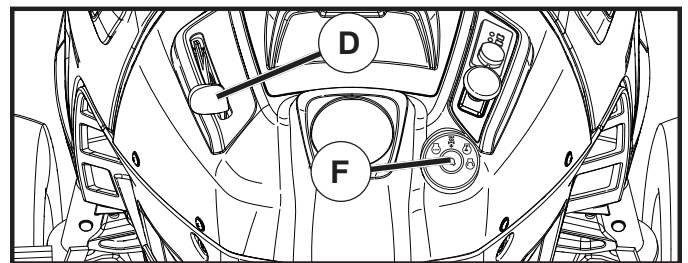

Fig. 27
TO USE THROTTLE CONTROL (D) (See Fig. 27)